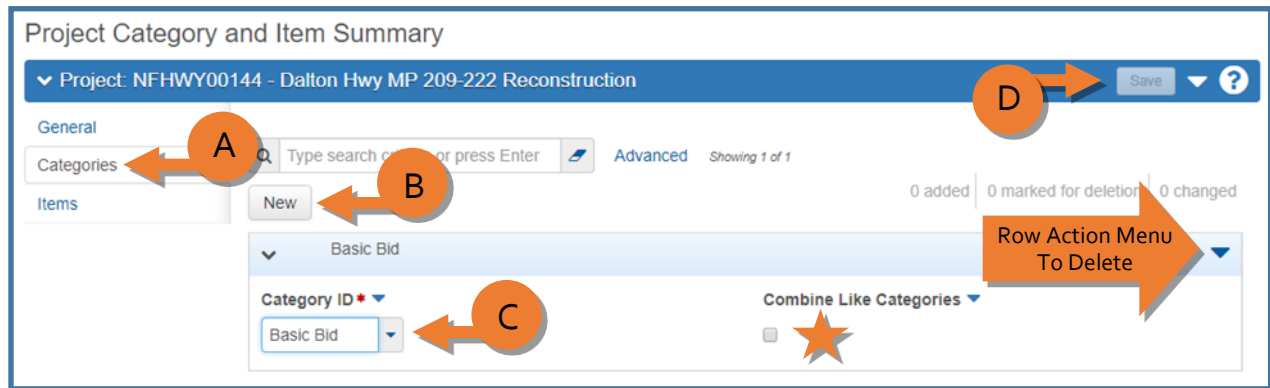

Figure 3.21
The Project Category and Item Summary component will appear (*Figure 3.21*).
8. Expand the **row actions menu** on the right side of the category record and select **Delete** (see *Figure 3.21*). The category is marked for deletion and users may “undo”  the action until the user clicks <Save>.